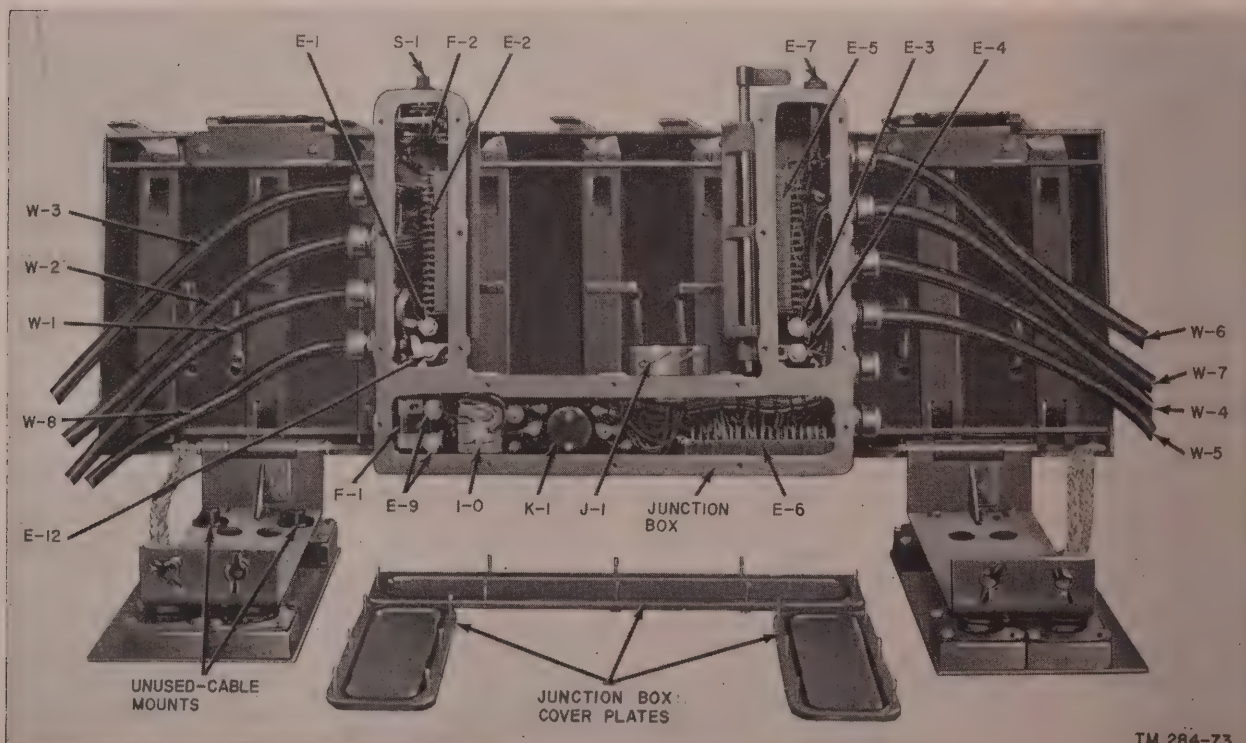

Figure 19. Mounting MT-297/GR, open view.
n. Connect the battery cable (W-8 in fig. 19) in accordance with instructions furnished with the installation unit. Generally, the cable will connect to a vehicular junction box rather than directly to the battery. Use the connector and bondnut supplied with the basic unit to secure the cable at its point of entry into the junction box. Leave enough slack to allow the mounting table to be swung back without straining the cable.